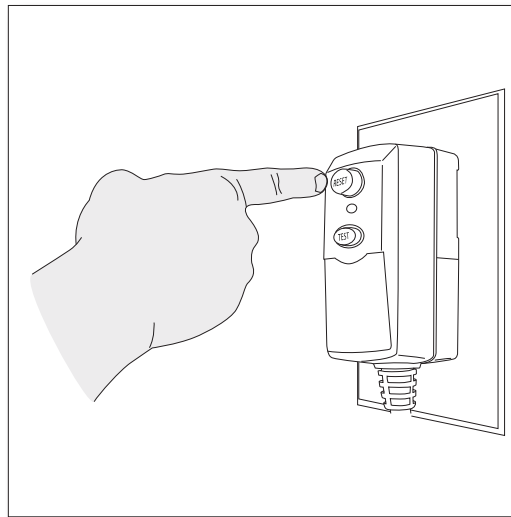

Fig. 19
- Unwind the power cord completely and plug the GFCI into a grounded 120 volt outlet. Press the ‘**reset**’ button on the GFCI box **(Fig. 19)**. The indicator window should show a red color. This must be done each time the unit is plugged in. (US units only)